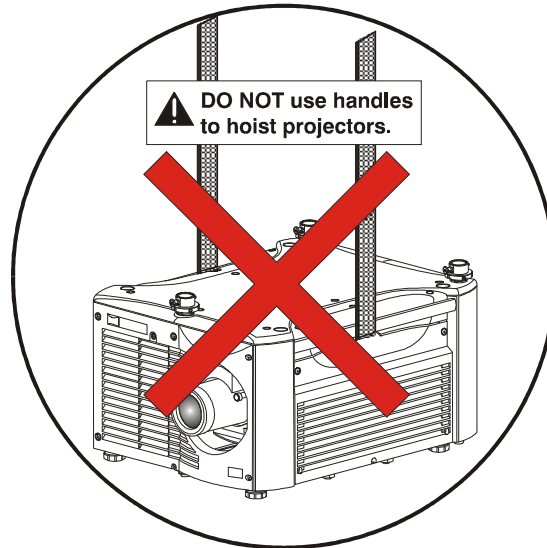

Figure 2-8 **NEVER** Use Handles for Hoisting or as Safety Points
- Never hoist a projector by its feet, handles, or any other component (*Figure 2-8*).